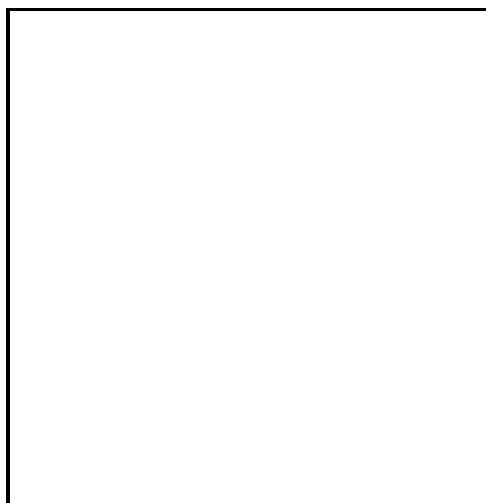

Figure 6-38: Tightening the roller scraper screws
- Tighten the screws in the order shown in figure 6-38.